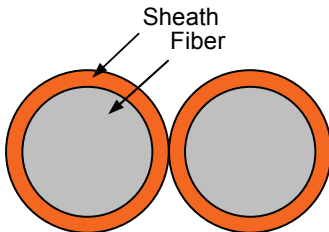

Figure 3-39 Duplex cable
- Duplex cables (see Figure 3-39)